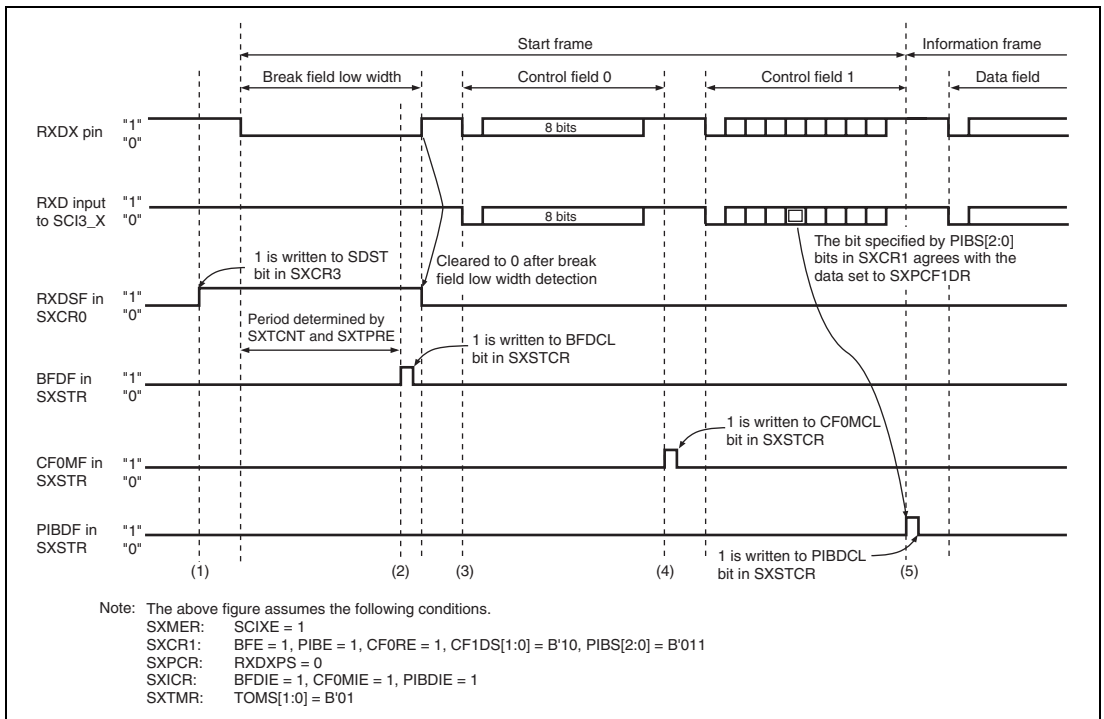

Figure 22.12 Start Frame Reception Example (Using Priority Interrupt Bit)
Figure 22.12 shows an operation example of receiving a start frame using the priority interrupt bit. The priority interrupt bit is enabled by setting the PIBE bit in SXCR1 to 1.
The SCIX receives a start frame using the priority interrupt bit in the following sequence. Steps 1 to 5 correspond to (1) to (5) in figure 22.12.